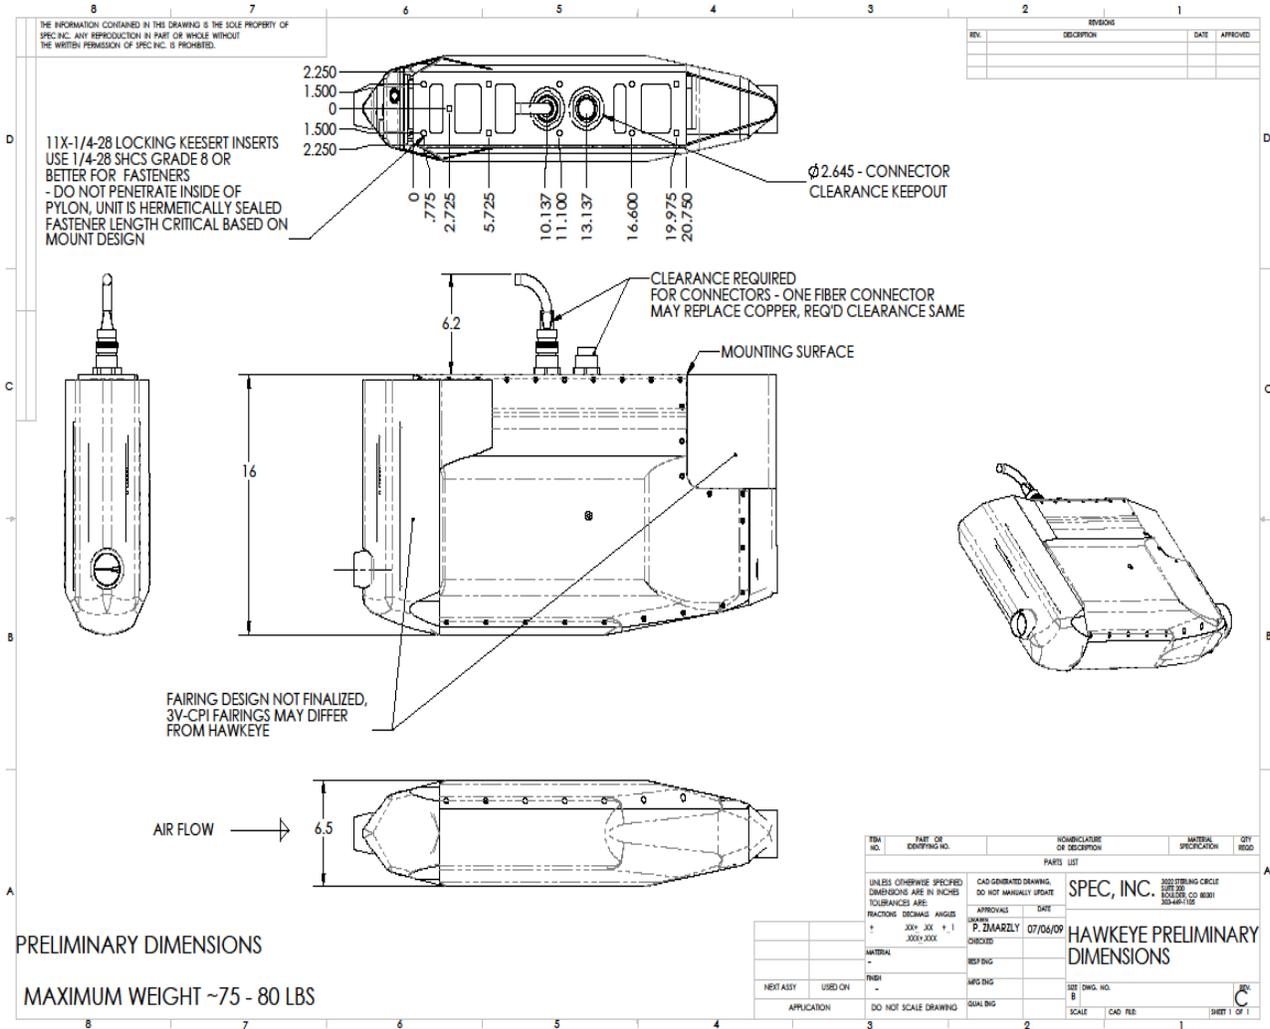

Figure 3.4.6. Spray droplet atomizer across Hawkeye inflow, perpendicular to direction of airflow into the instrument.
4. Spray the droplet atomizer across the front inflow of the Hawkeye (**Figure 3.4.6**). The atomizer should spray drops in a direction perpendicular to the direction of airflow into the Hawkeye. **DO NOT** spray drops directly into Hawkeye along flow direction. Water drops will contaminate the windows and the windows will need to be cleaned.